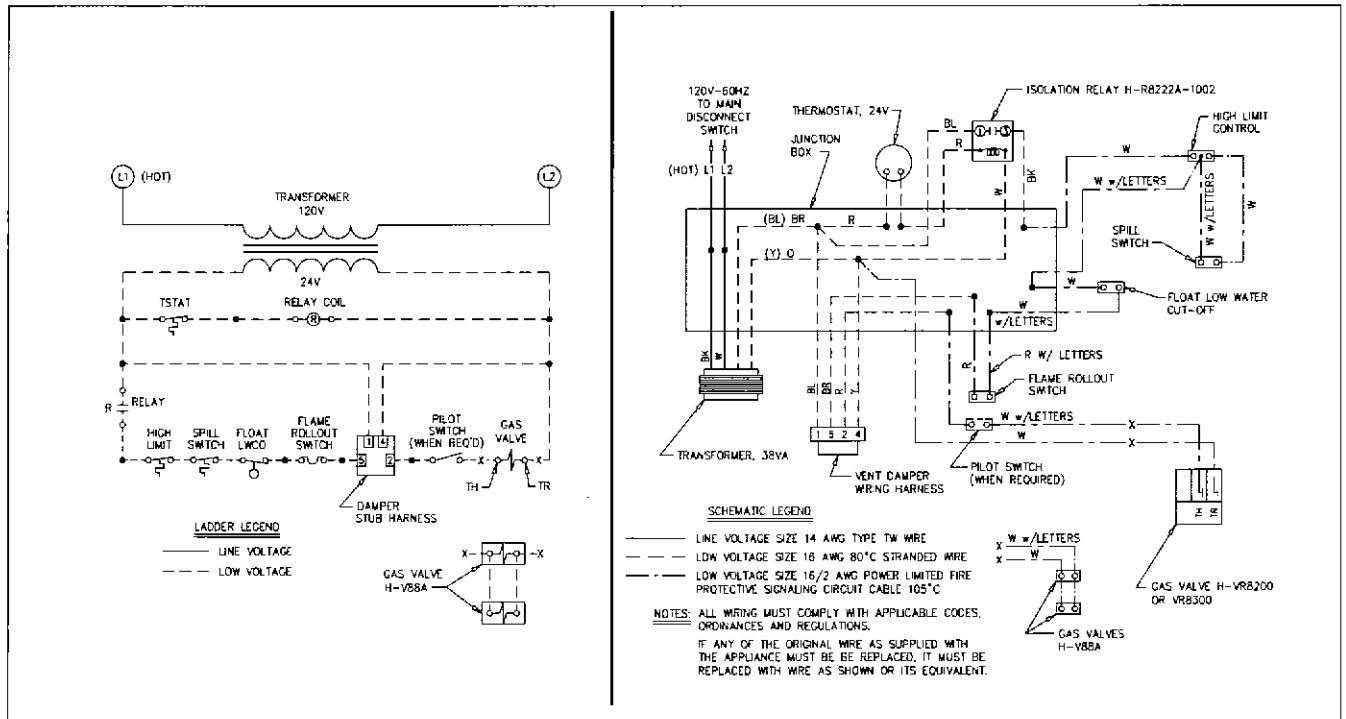

Figure 28
- 2—For recommended wiring of controls, refer to Figures 28 thru 42. See Figures 20, 21, 22 and 24 for location of wiring and controls.